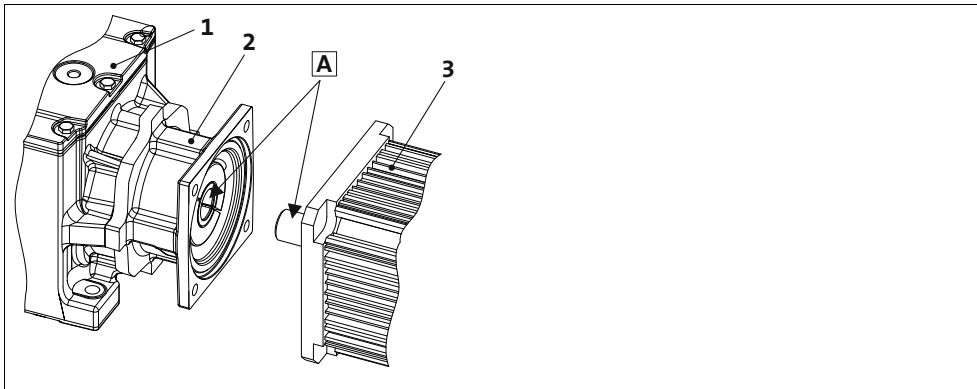

Fig. 3 Shaft surfaces
- Thoroughly clean and degrease hollow shaft bore and motor shaft journal, Fig. 3.